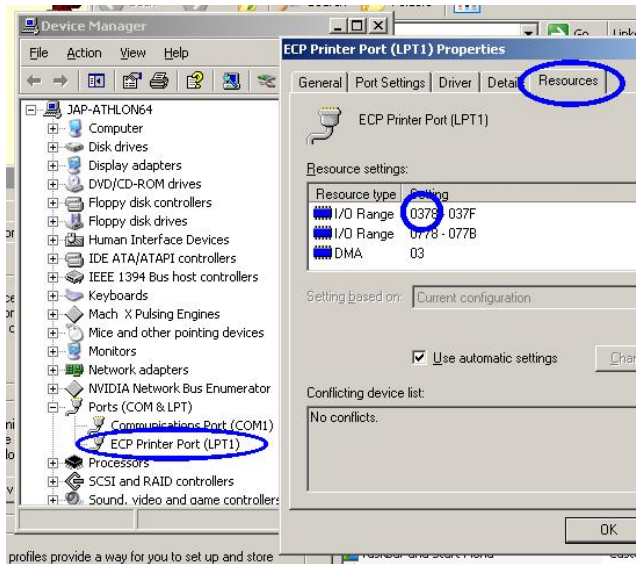

Figure 9.13 – IO address in Resources
8. Choose the “Resources” tab and take note of the first number under “Setting” that corresponds with the first “Resource Type” I/O Range (figure 9.13). This shows the standard value for a motherboard port. A PCI post will not start with a zero – it will probably be something like CD80 (as it is a hexadecimal number it can have digits A, B, C, D, E or F in it). Write down the four numbers and/or letters. This is your “Printer port address in Hex.”